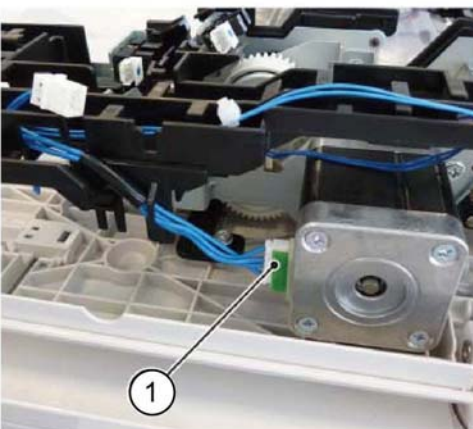

Figure 5 DADF feed motor assembly connector
8. Disconnect the DADF feed motor assembly connector (1), Figure 5.